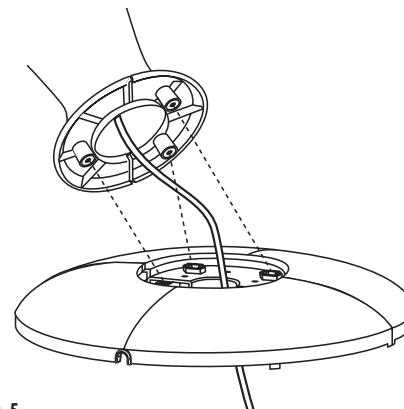

Fig. 5
- Align the 3 screw holes on bottom of pedestal with the 3 holes in the base such that the power cord holder is at the rear of the unit (Fig. 5).